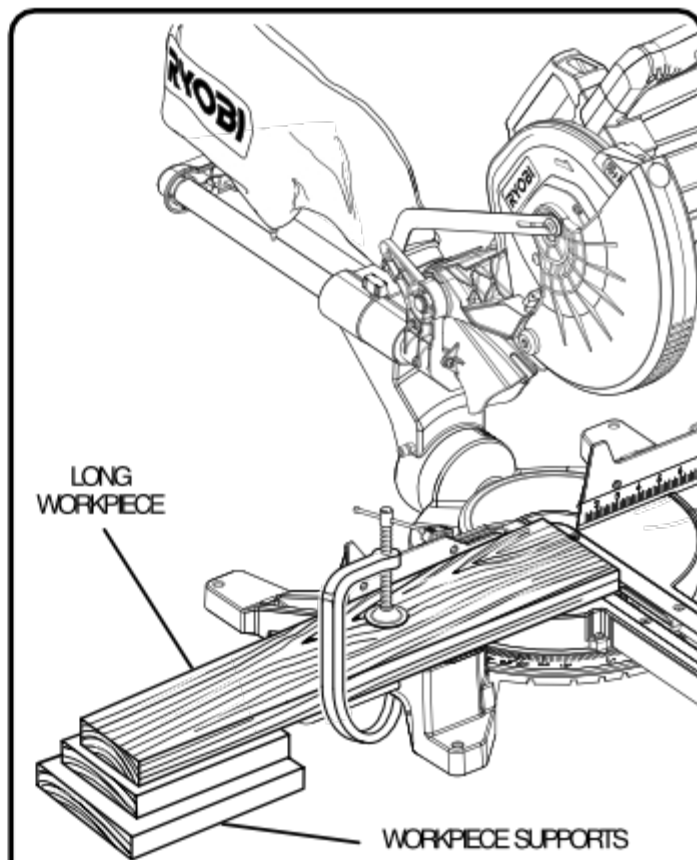

Fig. 33
- When cutting long pieces of lumber or molding, support the opposite end of the stock with a roller stand or with a work surface level with the saw table. See Figure 33.
See Figure 33.